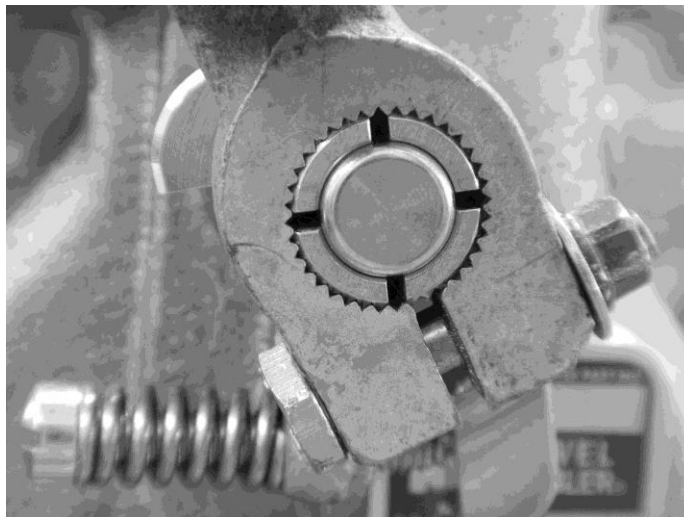

Figure 5-11b: Proper installation of Throttle Arm to the Serrated Shaft
- If not previously performed, drill-through both Throttle Arm holes with a #11 drill bit (.1910"). Install AN3-10A Bolt, NAS1149F0332P Washer, and MS21042-3 Self-Locking Nut as shown in Figure 5-11b. Torque to 20-25 inch/lbs.